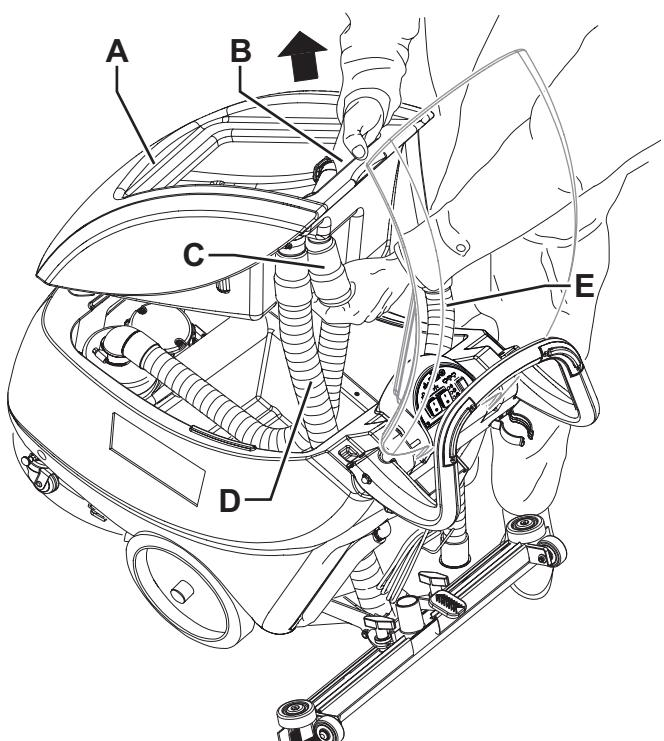

Figure 6
- Empty the recovery tank (30) as shown in the relevant paragraph.
- Disconnect the vacuum hose (22) from the squeegee (11).
- Disconnect the recovery water drain hose (16) from the bracket (17).
- Open the cover (6).
- Grasp the recovery tank (A, Fig. 6) in the area (B) and slightly raise it.
- Disconnect the vacuum hose (C) from the tank, then remove the tank (A) with the hoses (D) and (E).